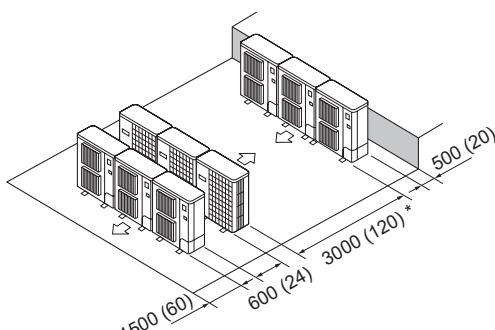

Fig. 2-17
(6) Multiple parallel unit arrangement (Fig. 2-17)